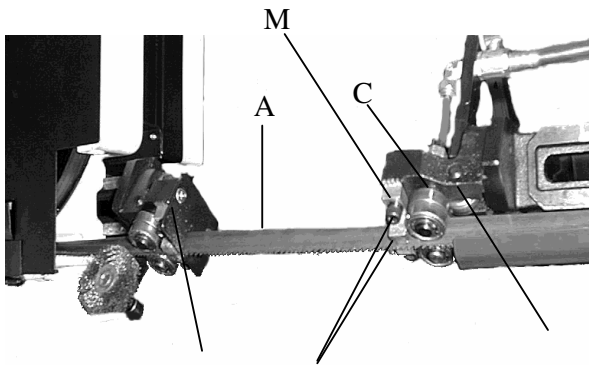

Fig.1
1. Adjust the tension of blade until the back of the blade (A) against the blade wheel (front) lightly.
2. Be sure the nut (E) is tightened.
3. Turn the eccentric shaft (B) counterclockwise, when the bearing (D) touches the saw blade properly; tighten the nut (E).
4. To adjust, loosen set screw(F) and move the blade adjustable up or down until it lightly Touches the back of the blade (A).
5. The carbide blade guides(L)Fig.1,should also be adjusted so they lightly touch the blade by loosening screws (M).
6. Repeat 1. 2, 3, 4and 5 steps to adjust the other side's blade guide bearings (G).
7. Correct the base and blade to be a vertical position with a scale. If necessary, loosen set screw (F).
8. Set down the blade frame, correct the jaw vise (H) and blade to be a vertical position with a Scale then tighten the set screws (I).
9. Loosen set screw (K), move front jaw vise (J) to against rear jaw vise (H) tightly. Finish Correcting by tightening set screw (K)